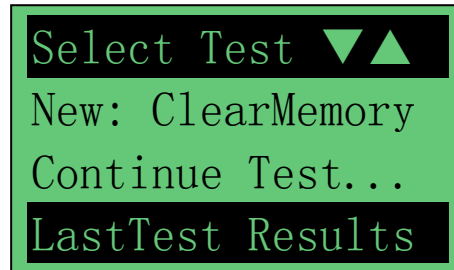

Figure 66
3. Pressing  key once will scroll down to the 'Last Test Results' Fig. 66 below.